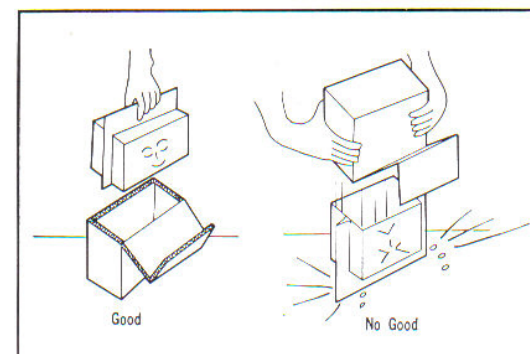

Fig. 5.43
a. When removing the battery from the cardboard carton, gently lift out the sealed edge. (Fig. 5.43)